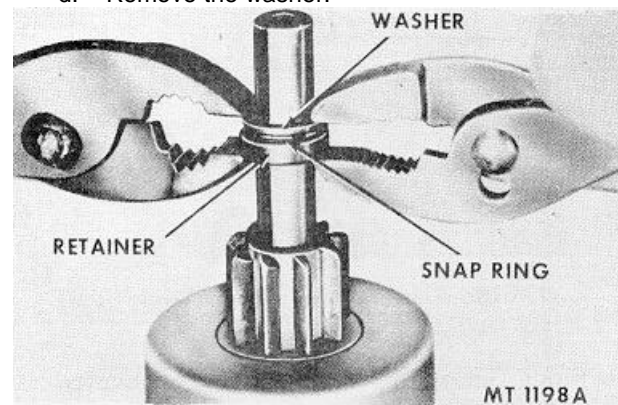

Fig. 11. Installation of Retainer And Thrust Collar
- c. To force the retainer over the snap ring, place a suitable washer over the shaft and squeeze the retainer and washer together with pliers, Fig. 11.